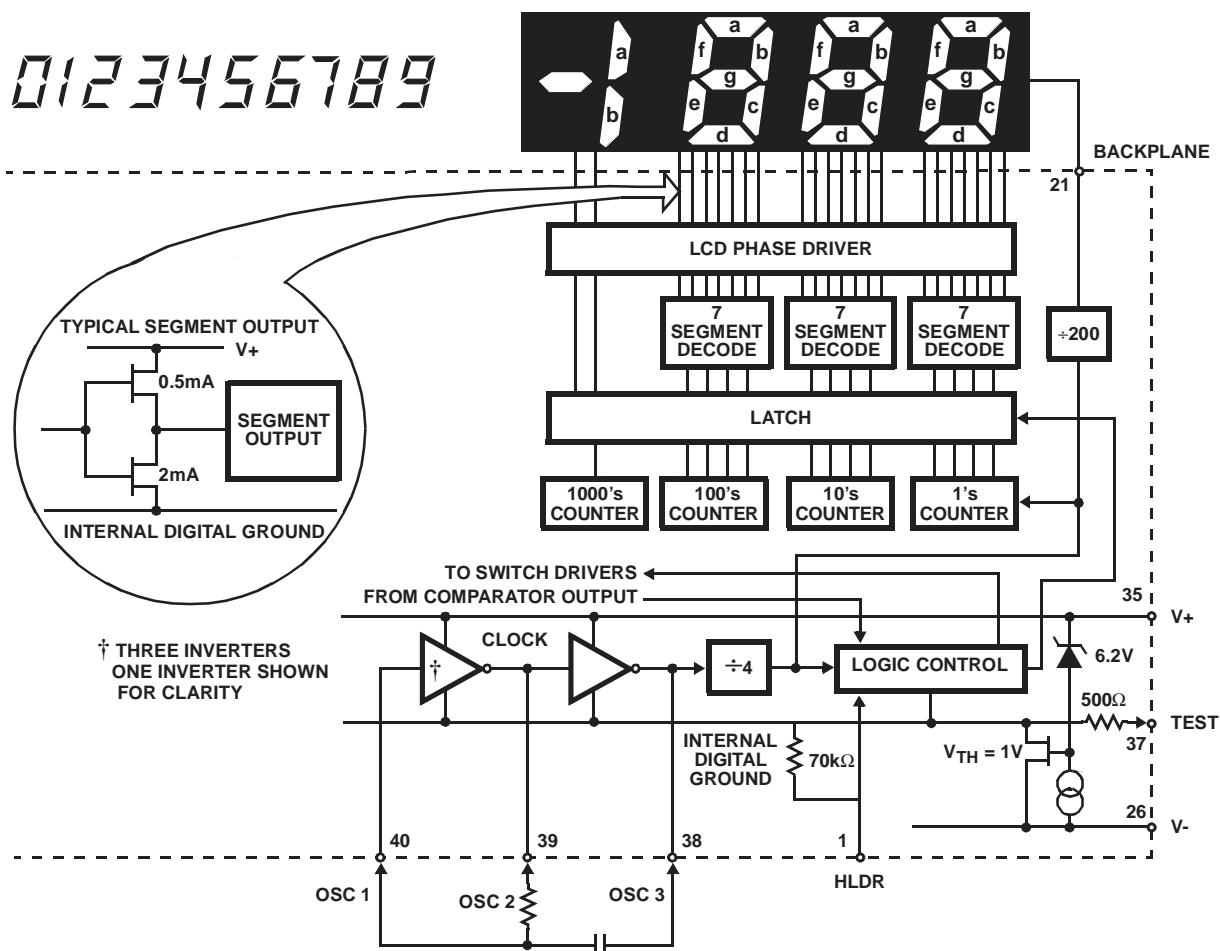

FIGURE 7. ICL7116 DIGITAL SECTION
The HLDR input will prevent the latch from being updated when this input is at logic “1”. The chip will continue to make A/D conversions, however, the results will not be updated to the internal latches until this input goes low. This input can be left open or connected to TEST (ICL7116) or GROUND (ICL7117) to continuously update the display. This input is CMOS compatible, and has a 70k $\Omega$  (See Figure 7) typical resistance to either TEST (ICL7116) or GROUND (ICL7117).
Figures 7 and 8 show the digital section for the ICL7116 and ICL7117, respectively. In the ICL7116, an internal digital ground is generated from a 6V Zener diode and a large P-Channel source follower. This supply is made stiff to absorb the relative large capacitive currents when the back plane (BP) voltage is switched. The BP frequency is the clock frequency divided by 800. For three readings/second this is a 60Hz square wave with a nominal amplitude of 5V. The segments are driven at the same frequency and amplitude and are in phase with BP when OFF, but out of phase when ON. In all cases negligible DC voltage exists across the segments.